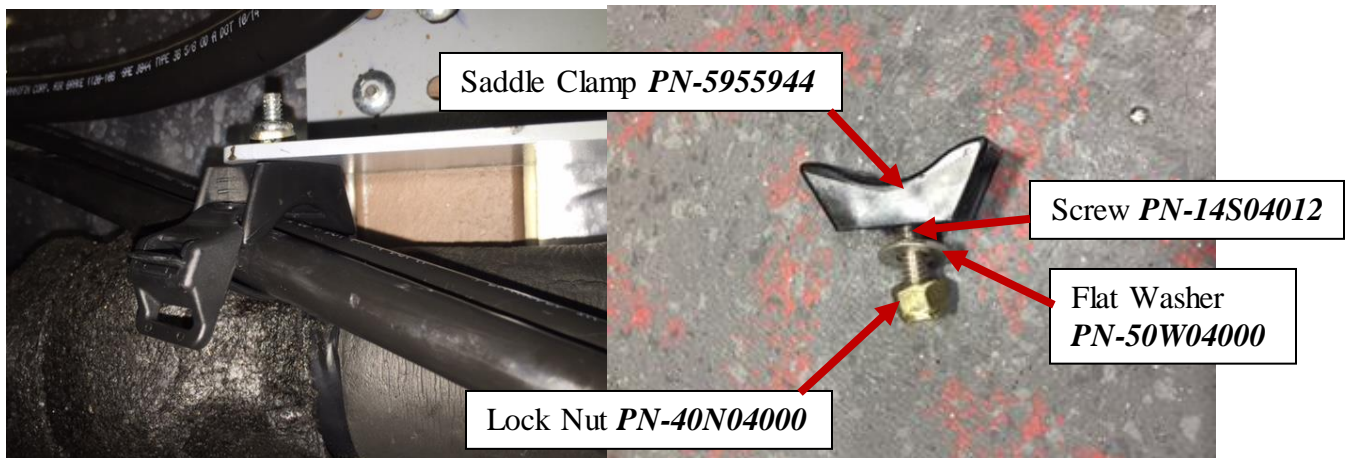

FIGURE 3: INSTALLATION OF SADDLE CLAMP TO PREVENT LINES FROM CHAFFING
7. Start with the forward most bracket at the air accessory tank. For steps 7 - 13, refer to Figure 3 - 5.
12. Drill 0.25 diameter hole at the location shown to install the saddle clamp to secure the airlines and prevent chaffing. Install saddle clamp (**PN: 5955944**), using screw (**PN: 14s04012**), on the backside install washer (**PN: 50W04000**) and lock nut (**PN: 40N04000**). Secure airlines with ty-rap and trim off end once ty-rap secured in place. Refer to Figure 3.